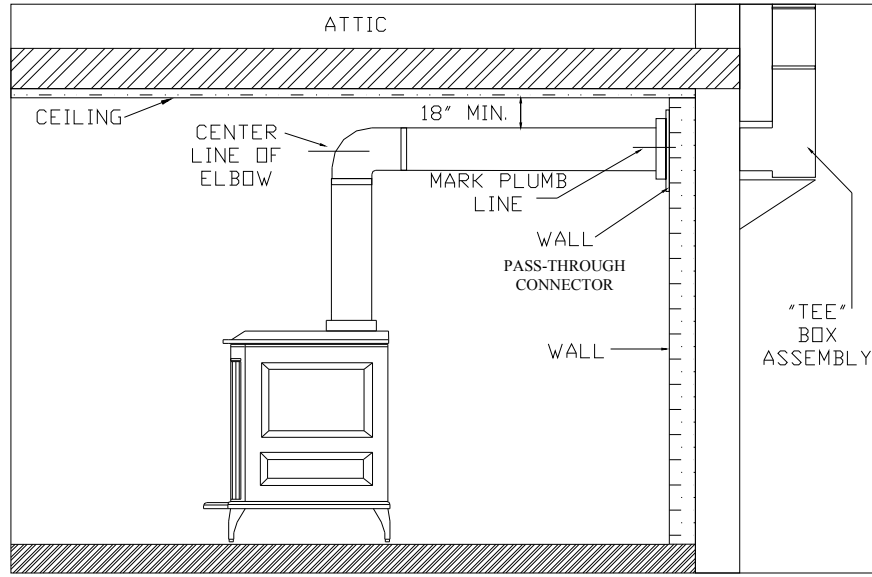

Figure 8
3. Measure up so there will be at least 1/4" rise per foot of horizontal connector pipe, maintaining clearances to the ceiling as noted in Figure 8. This will give you the center of the hole for the chimney penetration.
5. Connect the chimney collar to the tee-box using #24 ga. minimum blued or black steel connector pipe. **DO NOT** use galvanized pipe. Connect each section so the crimped end faces downward, and secure each section to each other using three (3) sheet metal screws or rivets.